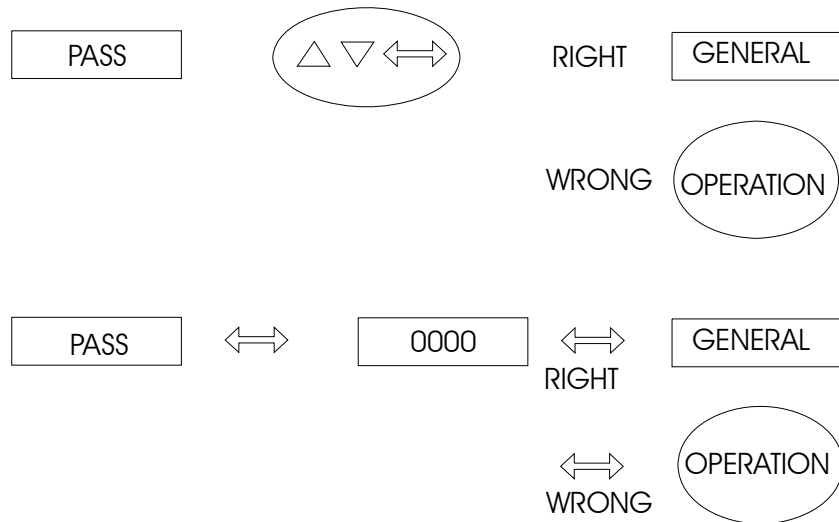

Figure 9 - Password by Key and by value
- ii. The display shows the warning PASS, this fact means that the instrument has a password either by Key or by value (Refer to Figure 9).